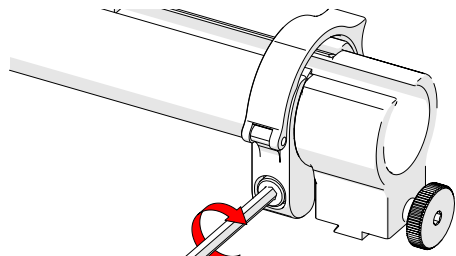

Fig. 97 - Tighten clamp screw
4. Tighten the clamp screw (*Fig. 97*).